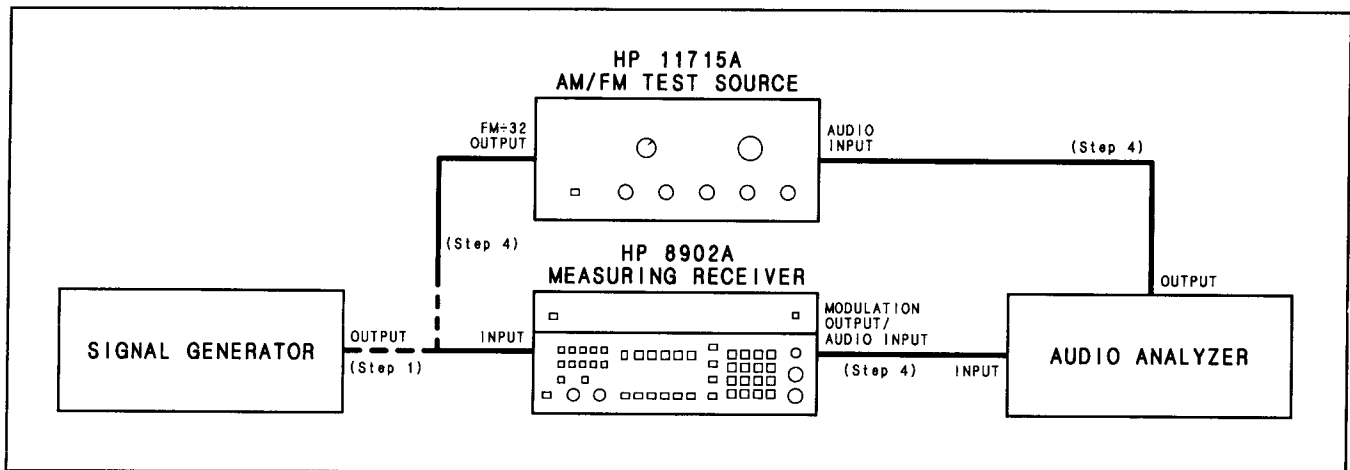

Figure 5—7. FM Distortion and Incidental AM—455 kHz IF Adjustment Test Setup
1. Set the signal generator to 2.45 MHz at 0 dBm with 10 kHz peak FM deviation at a 1 kHz rate. Connect its RF output to the Measuring Receiver's INPUT as shown in Figure 5—7.